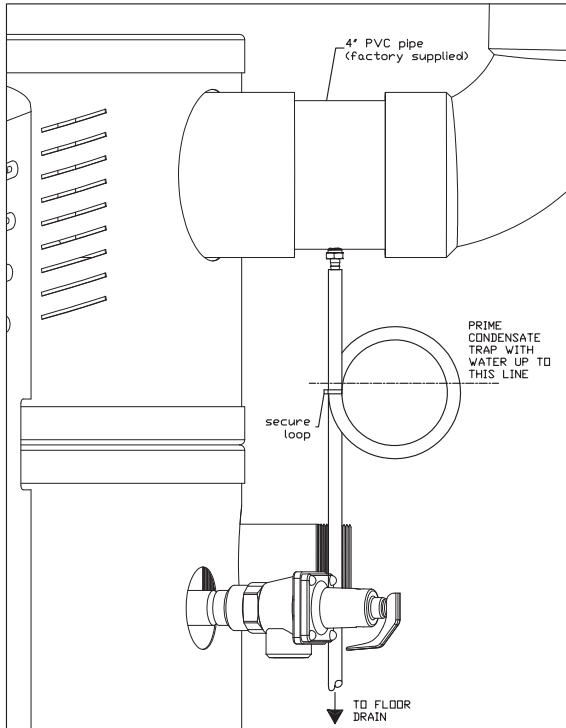

Figure 18: Optional Condensate Drain on Air Intake Piping
- Drill a 3/8" diameter mounting hole through the bottom of the 4" PVC pipe (section of pipe shown in Figure 18). Make sure the hole is located at the absolute lowest point on